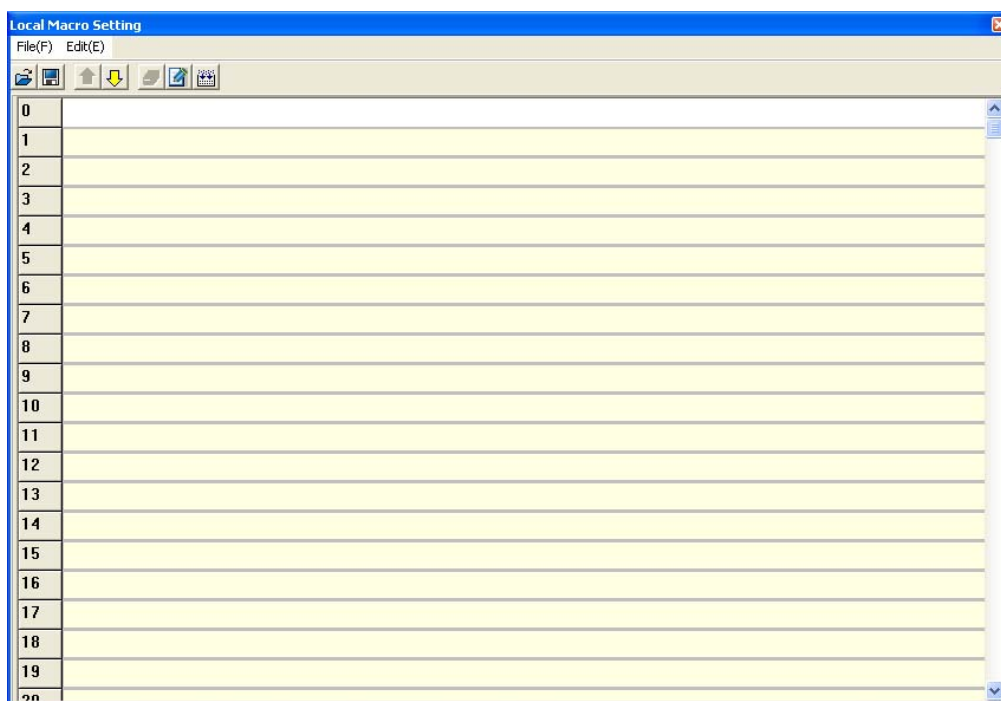

Figure 5-12 Macro editor
**Local Macro Setting** is used to set a macro for a page. If a macro is set for a page, the program set is executed cyclically when the page is displayed. After users click **Local Macro Setting** on the **Local Page Setting** menu, or right-click a page and then click **Local Macro Setting** on the context menu which appears, the **Local Macro Setting** window will appear, as shown in Figure 5-12.